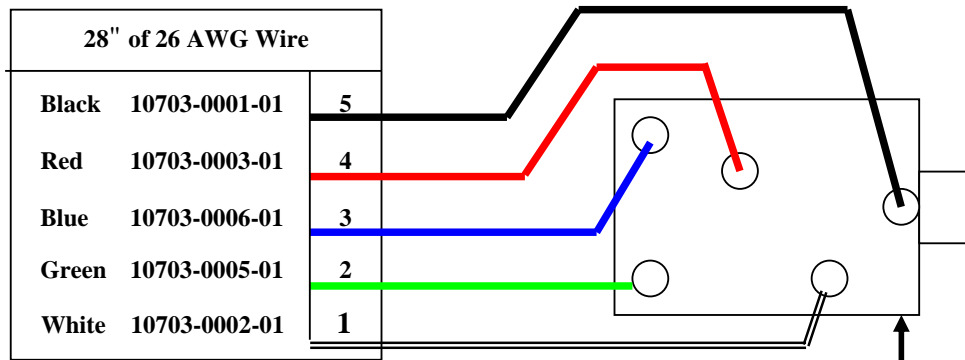
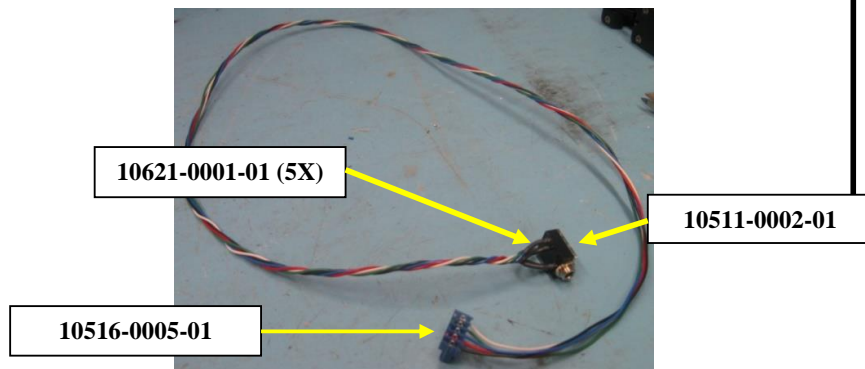

Figure 4
Figure 5
- 4.3. Solder wires carefully onto the Stereo Connector Jack (10511-0002-01) pins. See Figure 4.
- 4.4. Place a ½" long piece of 1/16" Heat Shrink Tubing (10621-0001-01) over the five (5) connections after soldering (see Figure 5). Shrink down.
- 4.5. Twist all of the wires together. Crimp the wires onto the 5 Pin .100" Housing (10516-0005-01) (see Figure 4 and Figure 5): Pin 5-black, Pin 4-red, Pin 3-blue, Pin 2-green and Pin 1-white.